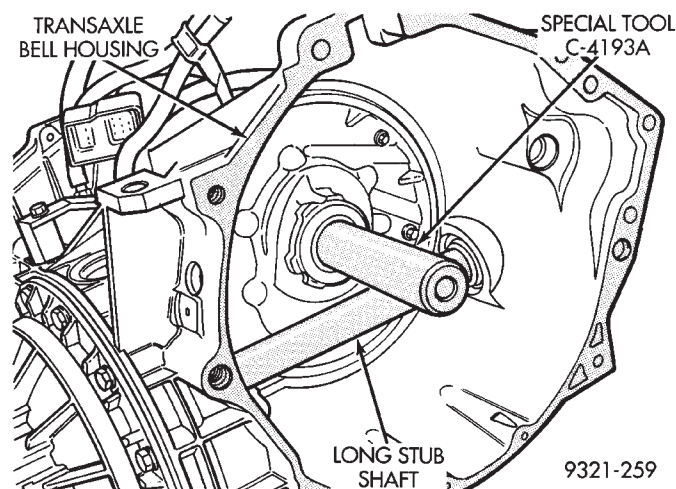

Fig. 56 Oil Seal Installation
- (1) Clean and inspect oil pump seal seat. Then install seal using special tool C-4193A (Fig. 56).